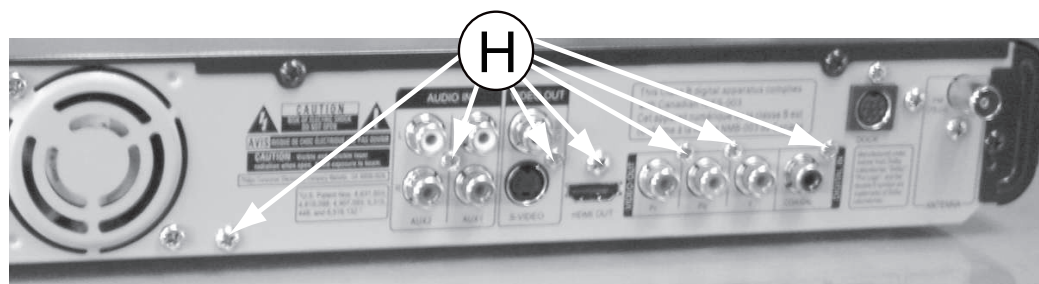

Figure 11
- 2) Loosen 7 screws “H” at the back panel as shown in figure 11